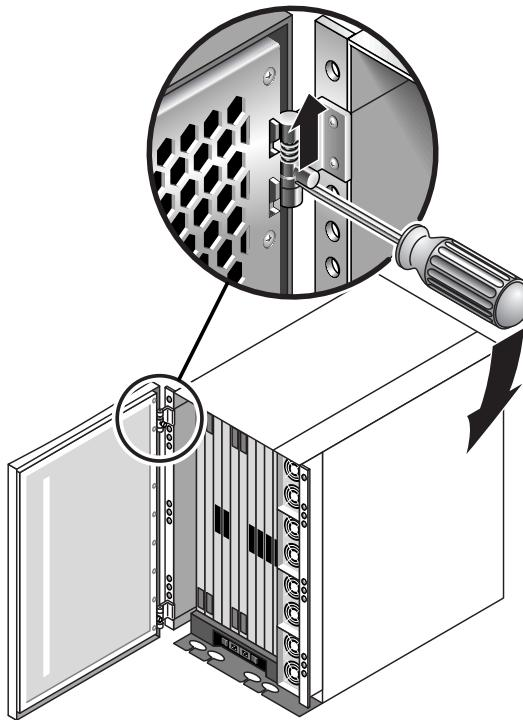

FIGURE 4-9 Removing the Front Door of the Director
1. To remove the SilkWorm 12000, 24000 or 48000 director door, perform the following steps (see FIGURE 4-9):